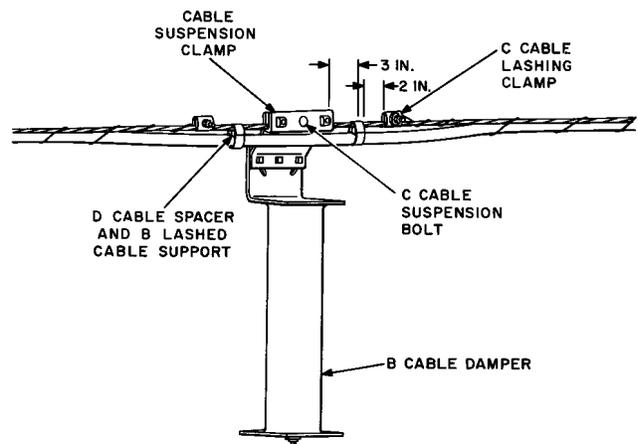

Fig. 16—B Cable Damper Installed With Lashing Wire Terminated
4.27 An alternate method of installing a B Cable Damper consists of cutting and terminating the lashing wire with cable lashing clamps and placing lashed cable supports and spacers. No sheath protection is needed with this method (Fig. 16).